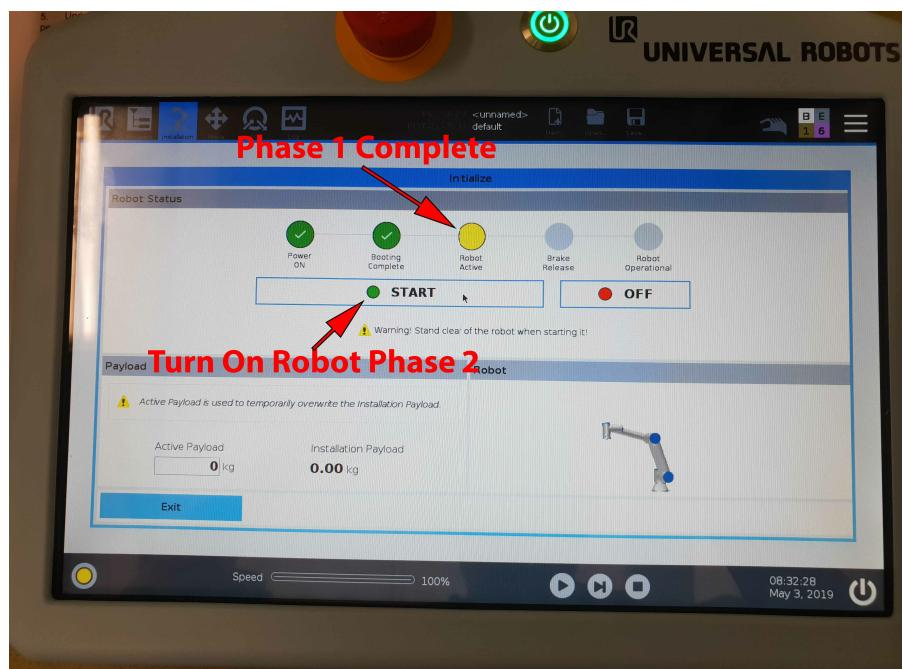

Figure 4 Robot Arm Initialize Panel
14. Robot Arm Power icon on the bottom left corner of the screen power up the robot. To turn ON the power to the robot, first click on this icon (which shows up in RED when the robot is switched off), and then click **ON** dialog box on the screen. When the Robot boots up and '**Robot Idle**' text changes to '**Robot Active**', click the **START** button. Click the **OFF** button to disable power to the Robot. See 11.1.3 and 11.1.4 in UR5e User Manual (See Figure 4)